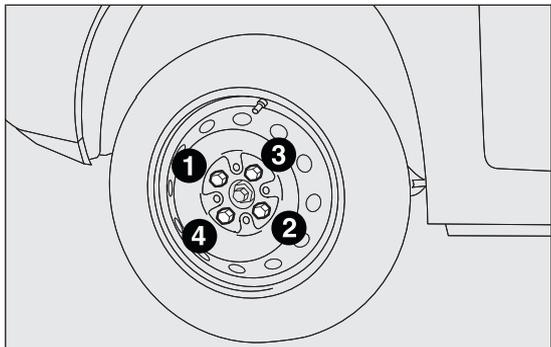

fig. 124
- use the wrench provided to fasten the bolts completely in a criss-cross fashion as shown in fig. 124.